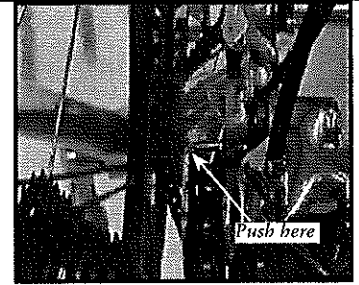

Fig. 17
5. Place your thumb on the rear derailleur cage (Fig. 17) and rotate the cage to move the upper derailleur pulley to a lower position.